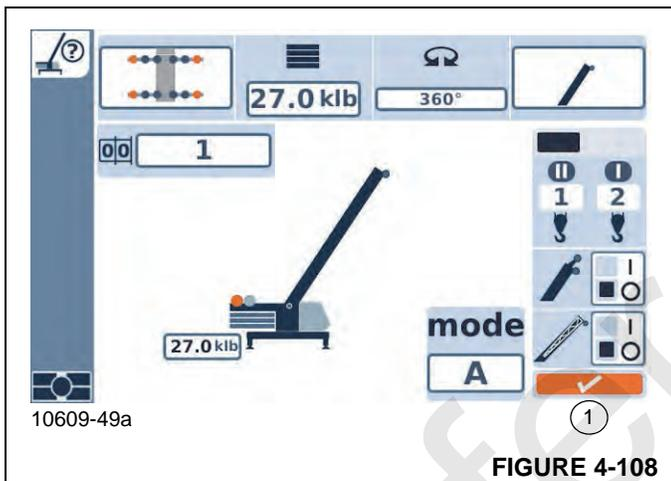

FIGURE 4-108
- Select the symbol (1, Figure 4-108).